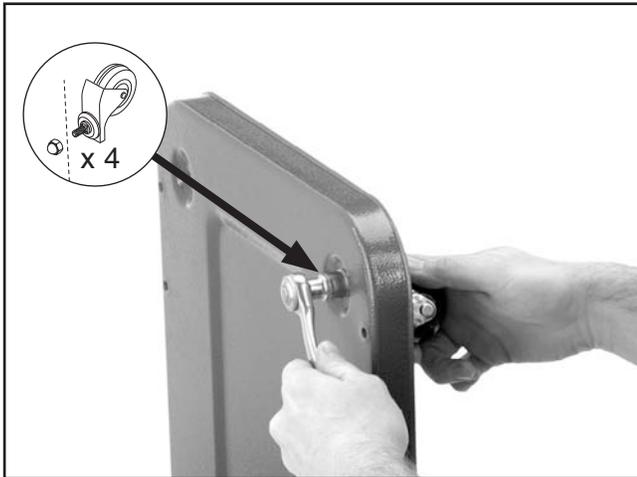

Figure 9. Caster installed onto the base.
1. Install the casters on to the base with (4) $\frac{5}{16}$ "-18 acorn nuts, as shown in **Figure 9**. The swivel casters can be mounted in the front or rear position, depending on your preference.